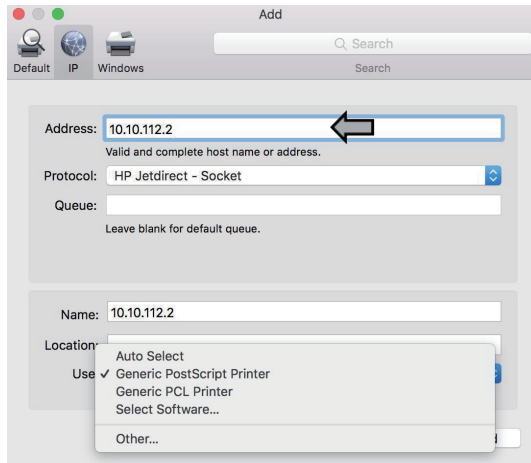

Fig.10
- ⑤ Enter the printer's IP address in the Address field, then choose "Select Software" from the "Use" drop-down menu. (see Figure 10).